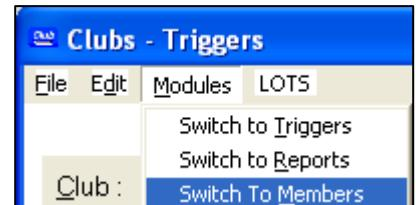

Figure 381
- To modify club members from within Clubs navigate to the **Modules** drop-down menu → Switch to **Members** (see Figure 381).